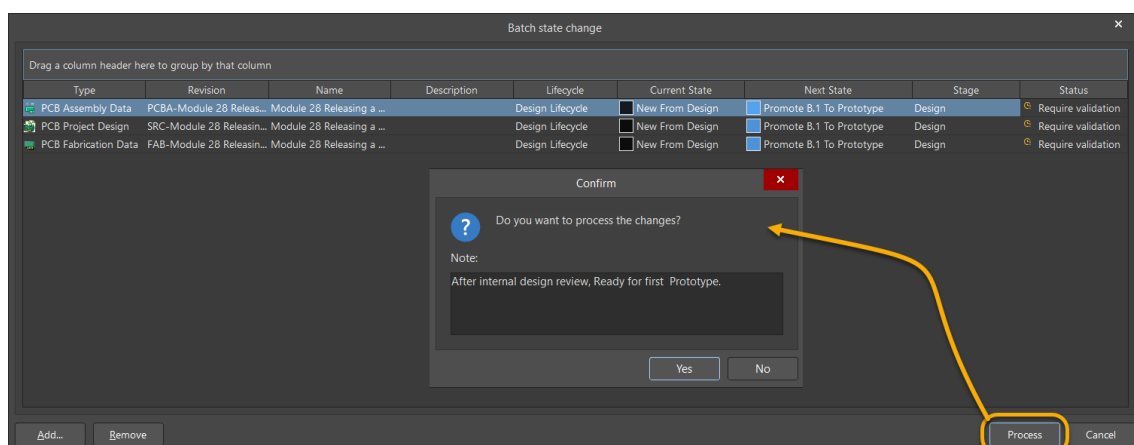

Figure 15. Confirm Change of Lifecycle state
45. Select **Process**, add a Confirm Information and select **Yes** to change the lifecycle, Figure 15.